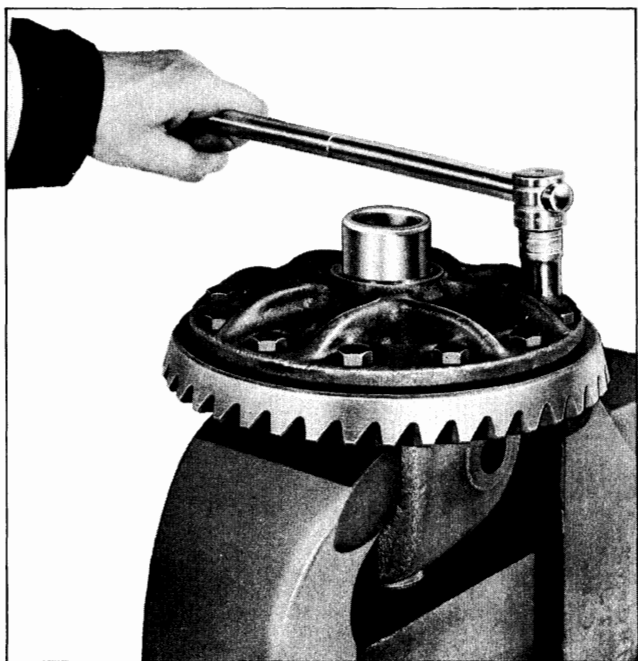

Fig. 4-53 Removing Ring Gear From Case
11. Clamp case in vise so jaws are 90° to pinion shaft holes (Fig. 4-53), and remove twelve ring gear retaining screws and remove ring gear.